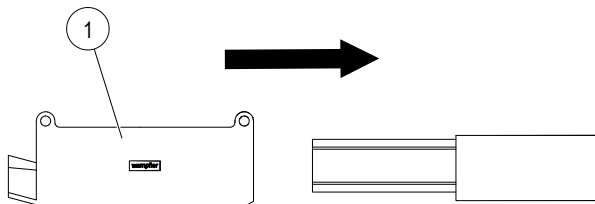

Fig. 14: Push end cap (Item 1) onto conductor rail.
- Drive the end cap (Item 1) onto the end of the conductor rail with careful, light hammer blows (see Fig. 14). Make sure that the busbar is correctly seated in the end cap (see Fig. 16).